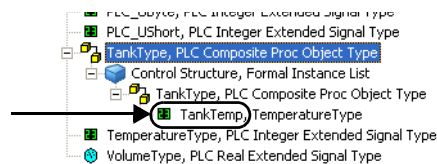

Figure 7. Added Signal Type Instance
18. Expand the composite process object type to view the added instance, see also Figure 7.